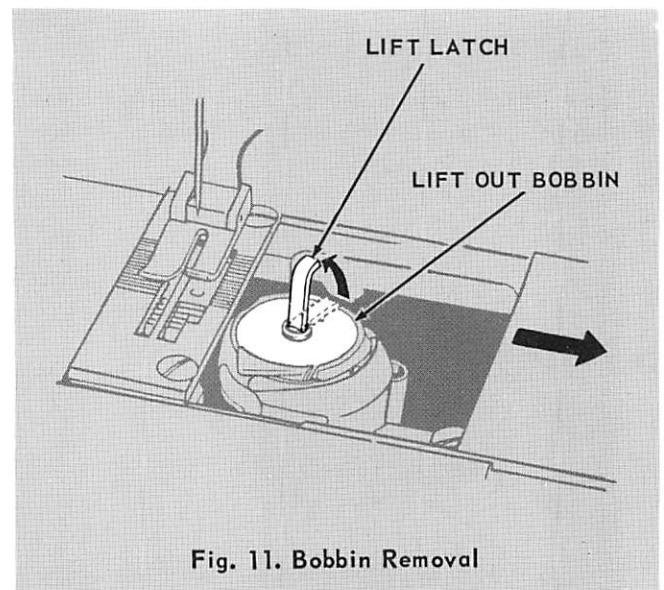

Fig. 11. Bobbin Removal
3. Raise bobbin latch and lift out bobbin as indicated in Fig. 11.